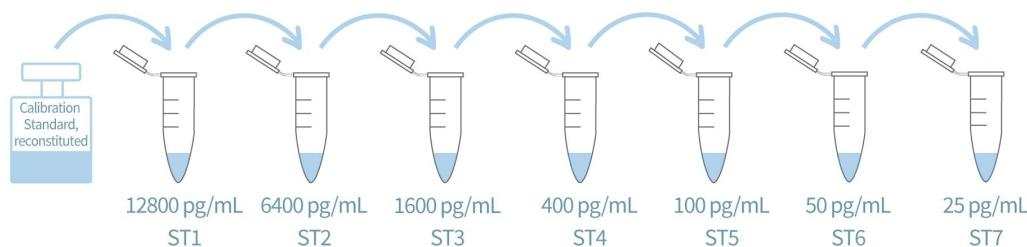

Figure 3. Graphic scheme of CHO PLBL-2 Calibration Standard Solutions
(3) Preparation of Calibration Standard Solutions
- Prepare CHO PLBL-2 Calibration Standard Solutions as shown in Fig 3 and Table 3.